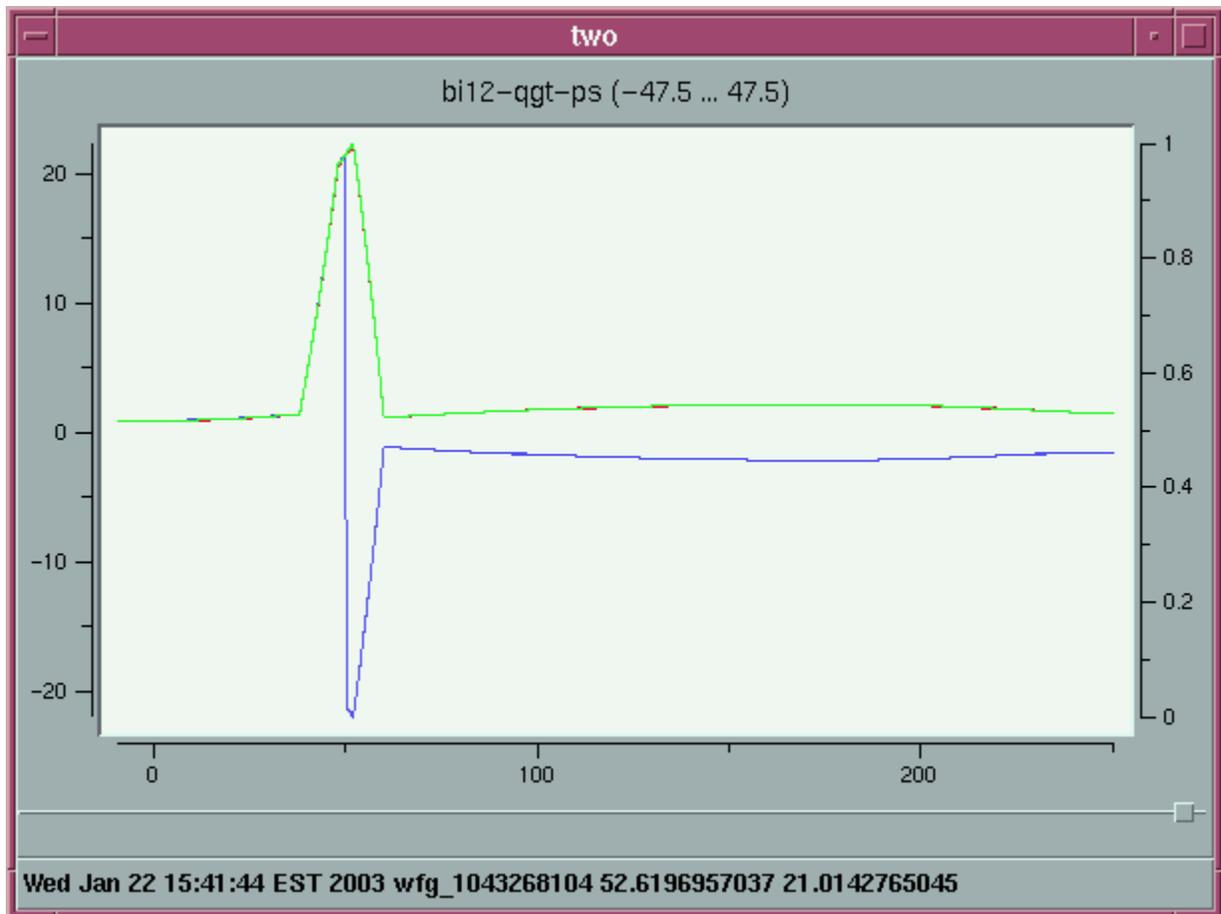

Figure 2
- 1.4 There is a way to observe previous jumps performed in operation of the accelerator. This can be used as a reference when the normal appearance of a jump is not known. Refer to **Appendix 1** for a procedure to observe previous jumps. Figures 2 and 3 also show normal jumps.
- 7.5 This window will show a plot of the jump current vs. time. See Figures 2 and 3 for examples of positive to negative and negative to positive transitions respectively.